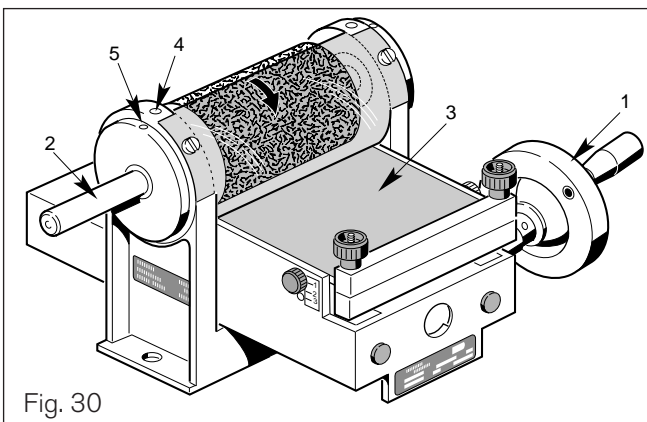

Fig. 30
Zero point check (Fig. 30)
Turn the belt feed wheel (1) while at the same time turning the abrasive drum (2) by hand. Allow the grinding plate (3) to pass under the drum (Fig. 30). If evenly spread scratch marks appear on the front edge of the grinding plate the zero point setting is correct. If the drum does not contact the grinding plate evenly proceed to the zero point adjustment.
Zero point adjustment (Fig. 30)